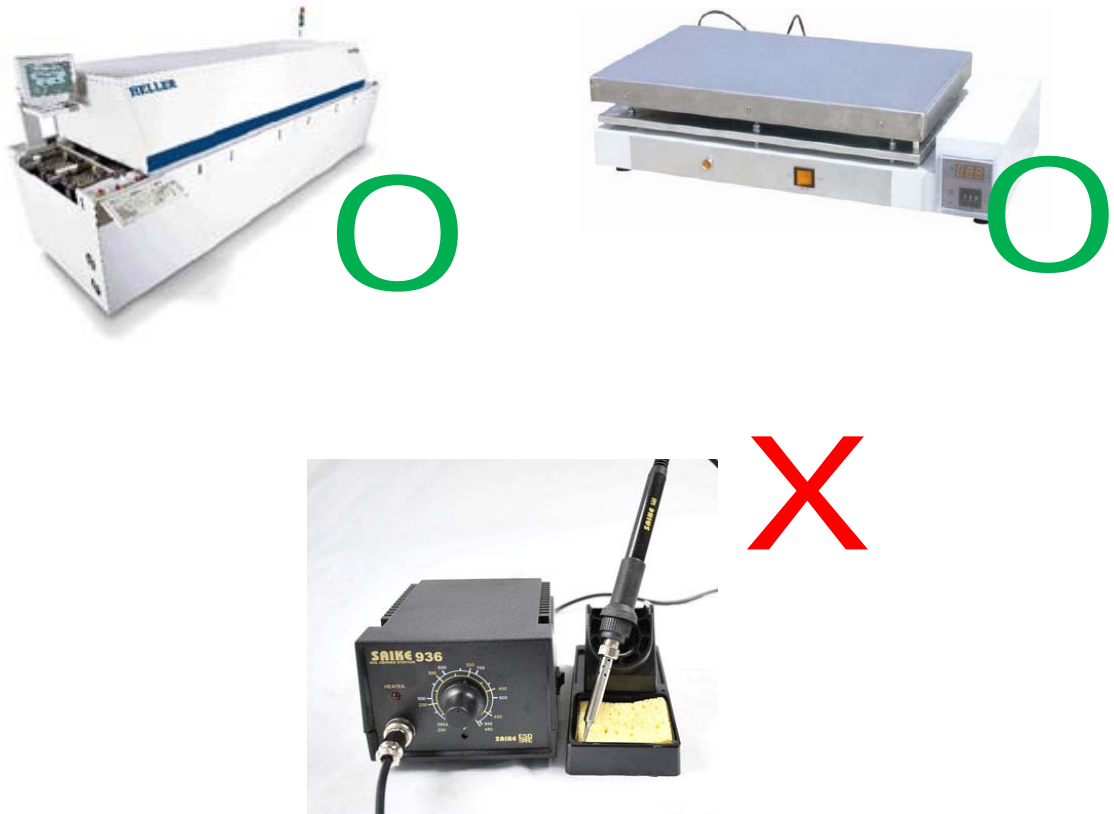

Figure 9.
- a. Solder Methods: C35 is designed to be soldered onto a PCB. Users could solder C35s on the PCB by a reflow oven or a hotplate (examples shown in Figure 9) and following the reflow soldering profile listed on the reflow information.